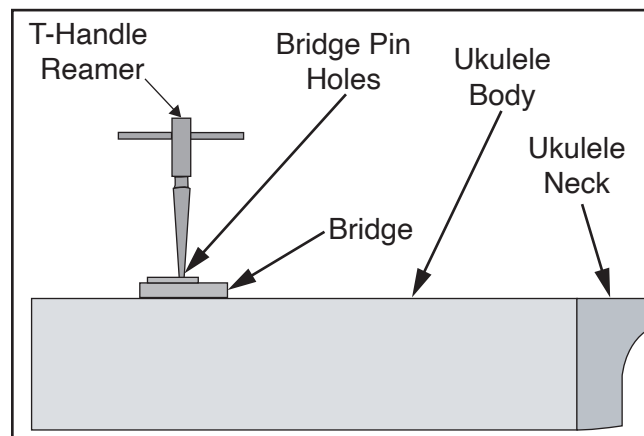

Figure 20. Reaming bridge pin holes.
4. Place T-handle reamer in (1) bridge pin hole and gently twist reamer clockwise, making one complete revolution (see **Figure 20**).